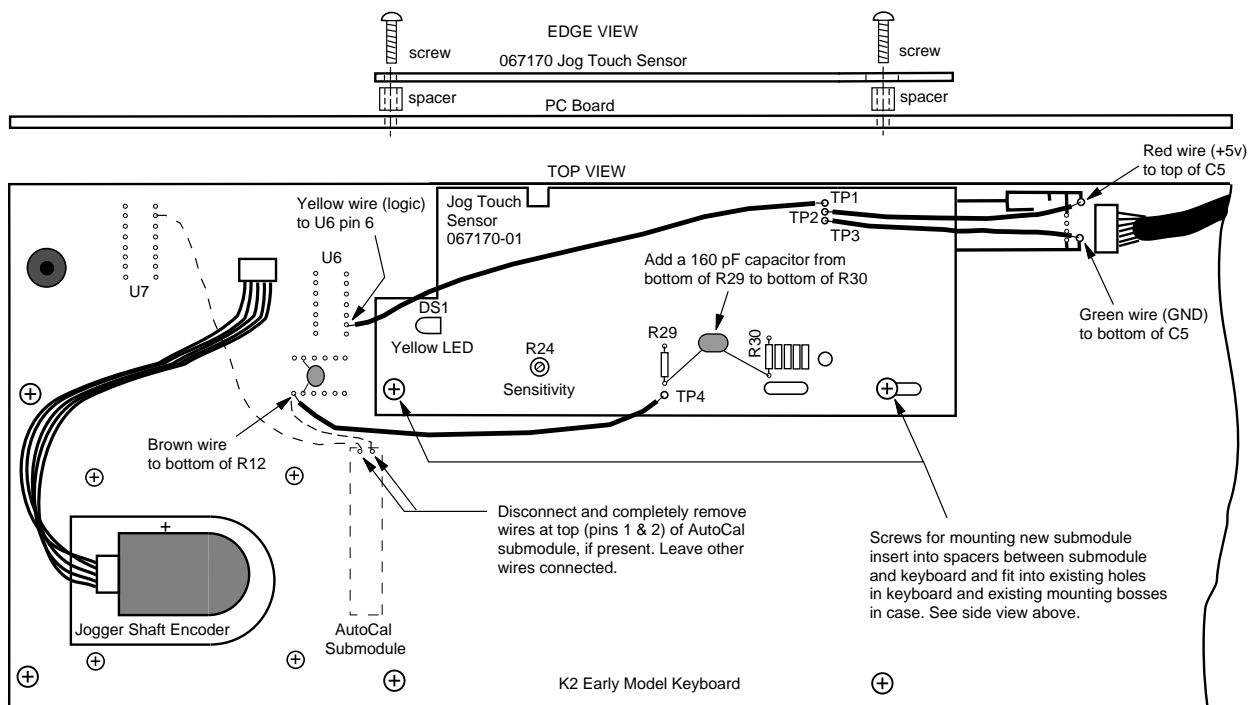

Figure 4. Jog Touch Sensor Submodule Installation on Early Keyboards
8. **For early model keyboards only**, put the keyboard back into its case and fasten it in place using the screws removed earlier. Note in Figure 4 (next page) that two of the holes in the keyboard and corresponding mounting bosses in the case are used for mounting the new Jog Touch Sensor submodule; leave the screws out of those two holes.
9. **For early model keyboards only**, position the supplied spacers over the two unused screw holes. Then place the new 067170-01 Jog Touch Sensor submodule on top of the keyboard pcb and spacers as shown in Figure 4 (next page). Insert the remaining two screws through the holes in the submodule, spacers, and keyboard pcb and tighten the screws to fasten the submodule securely to the keyboard pcb and case.
10. **For early model keyboards only**, connect wires from the new Jog Touch Sensor submodule to the solder side of the keyboard pcb as follows (see also Figure 4):
12. **For early model keyboards only**, if an Auto Cal submodule is present as shown by dashed lines in Figure 4, disconnect and completely remove the two wires connecting the Auto Cal submodule to U7 pin 2 and R12. Leave the other wires connecting to the submodule in place.